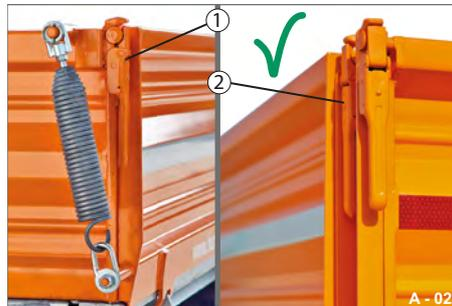

Fig. 23 Platform gate, secured
- ▶ Close the locks (Fig. 23/ 1 & Fig. 23/2) one after another. Hold the platform gate firmly.